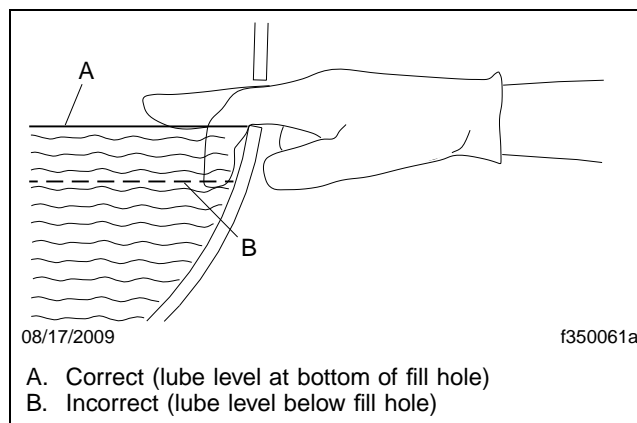

Fig. 2, Axle Lubricant Level Inspection
13. Check the fluid level at the fill plug. See **Fig. 2**.